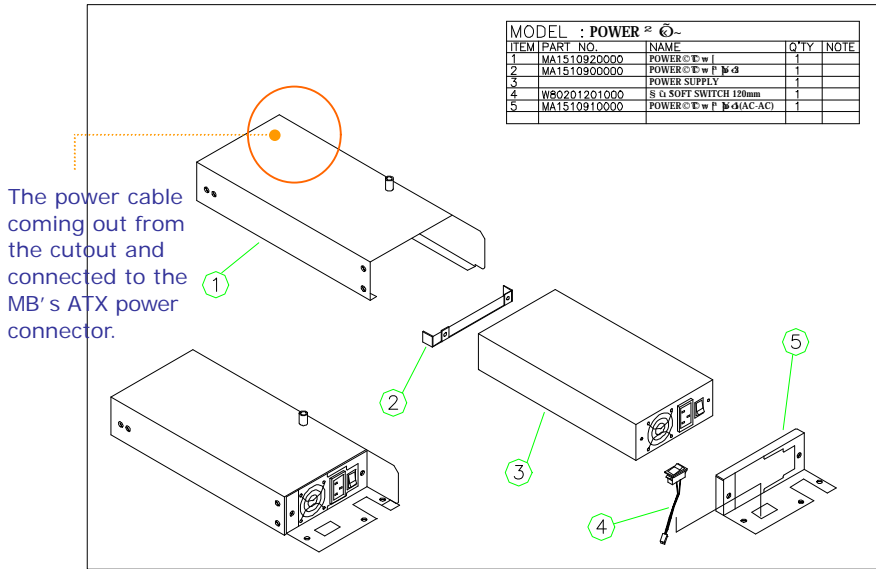

FIGURE 5-11: APOLLO AC POWER MODULE
1. Refer to Figure 5-11. Attach the power fix bracket (2) to the power supply (3) and fix them together with 2 flat-head screws (3*5). This small bracket is used to prevent the power supply from moving around in the power bracket.
2. Insert the power supply to power bracket (1) and fix them together with four 3*5 screws.
4. Insert the power switch (4) to power bracket (5). The other end of the switch cable is to be connected to the 2-pin POWER ON switch, SW1 on the motherboard.